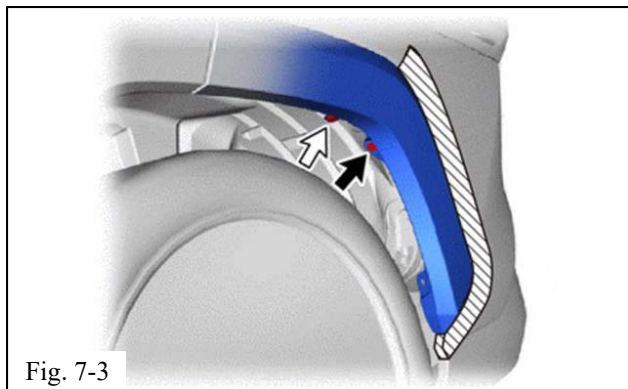

Fig. 7-3
(1) Apply protective tape around the quarter outside subassembly LH (Fig. 7-3).
(2) Remove the screw (white arrow, Fig. 7-3).
(3) Remove the clip (black arrow, Fig. 7-3).